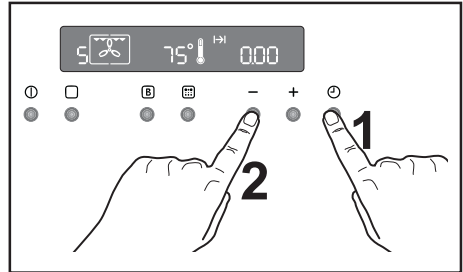

Fig. 10
- press button “-” to decrease the time until “0.00” is displayed (Fig. 10).